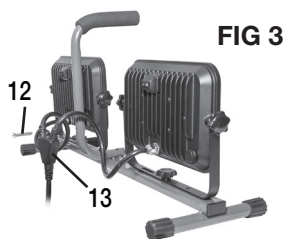

FIG 3
3. Use a screw (12) to attach the power cable connector (13) to the carrying handle as shown in FIG 3.